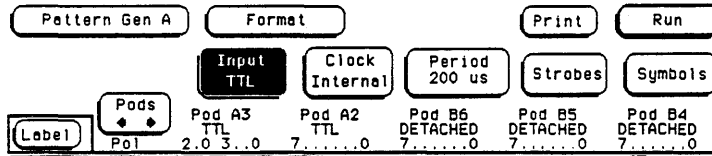

Figure 3-16. Set TTL Level
e. Touch Input field to set input level to TTL as shown in figure 3-16.